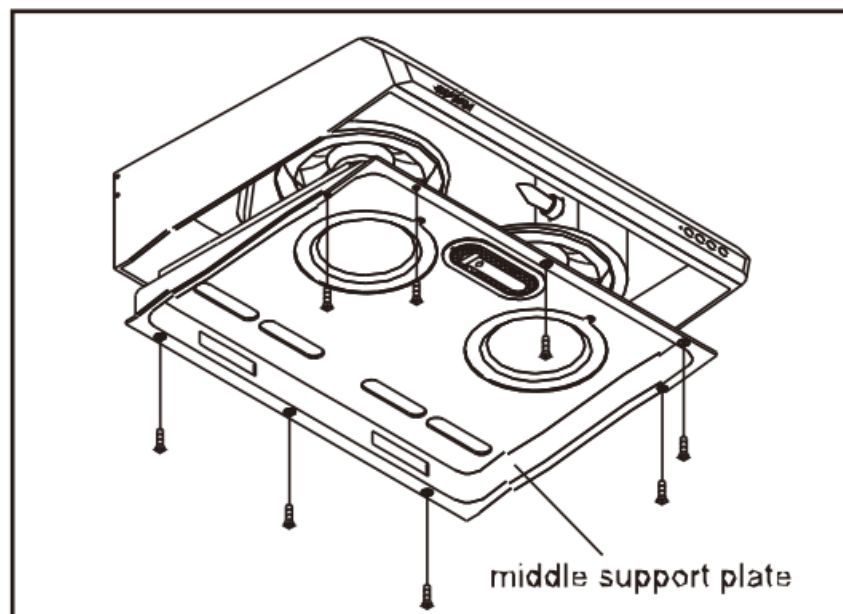

Fig. 15 Fix the middle support plate
12. Screw on middle support plate(Fig.15)